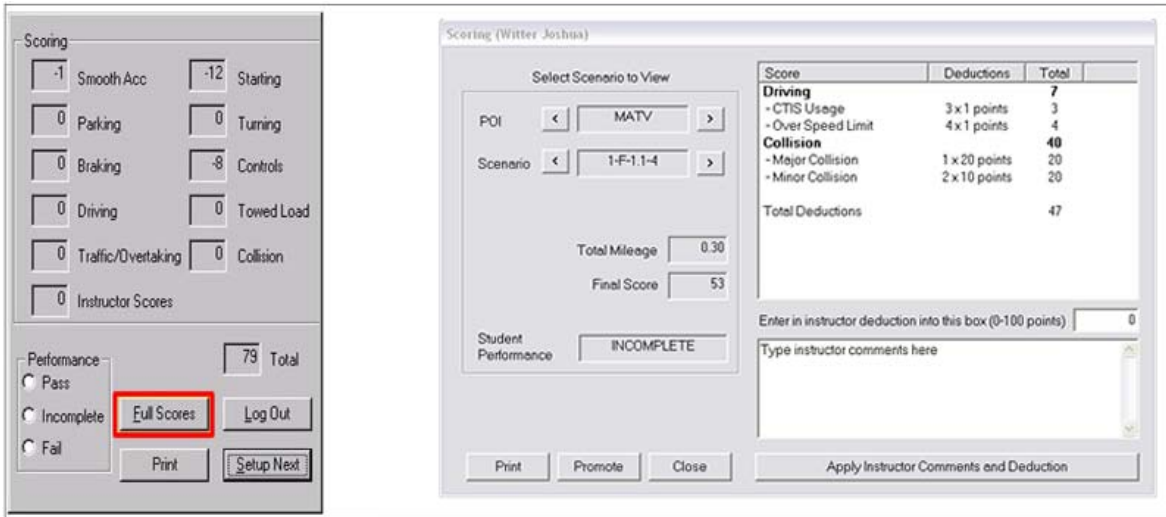

Figure 175. Scoring Window – Full Scores
4. After clicking the [FULL SCORES] button in the Scoring window, the Scores screen will appear on the right (Figure 175). This screen allows the instructor to see exactly where the student lost points during the exercise.